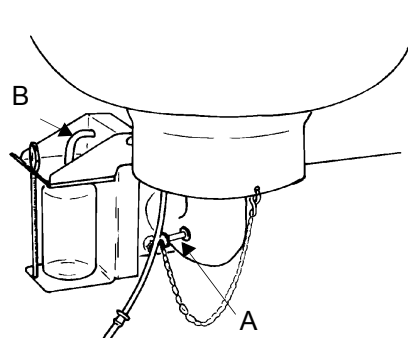

Figure 3.2 Existing sampling unit
- 4) Use the plug to seal the hole in the elbow bend below the sight vessel of the Astronaut milking robot (A, figure 3.2). Clean the plug before inserting it.
- 5) Reconnect the tube (B) of the built-in sampling unit.